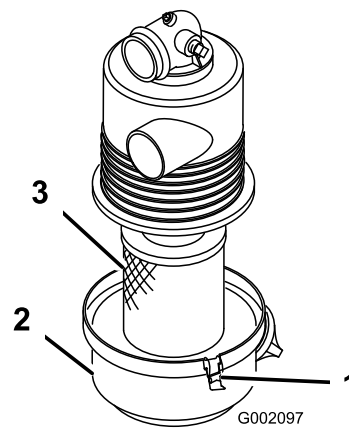

Figure 33
cover from the body. Clean the inside of the air cleaner cover (Figure 33).
4. Gently slide the filter out of the air cleaner body to reduce the amount of dust dislodged (Figure 33). Avoid knocking the filter against the air cleaner body.